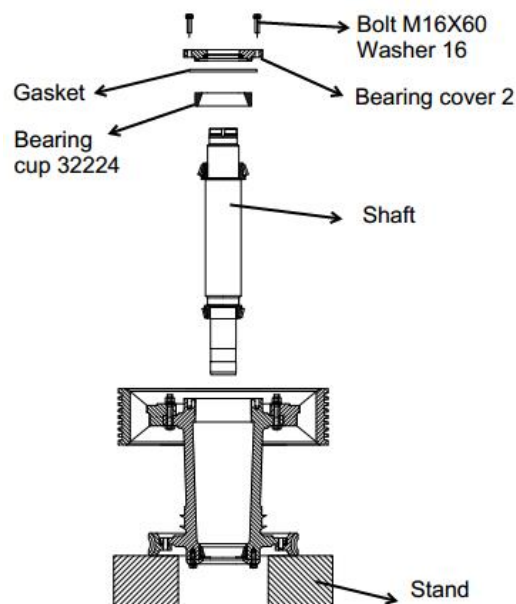

Figure 44 Output Shaft Bearing replacement
17. Turn the assembly over and place two stands under the gear surface. See Figure 44.